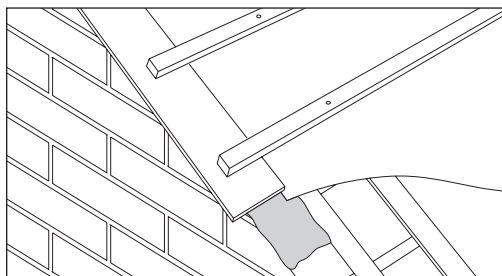

Fig 43 – Fibre cement undercloak fitted over tiling batten
- Place undercloak below battens, overhanging by maximum of 50mm (Fig 43).